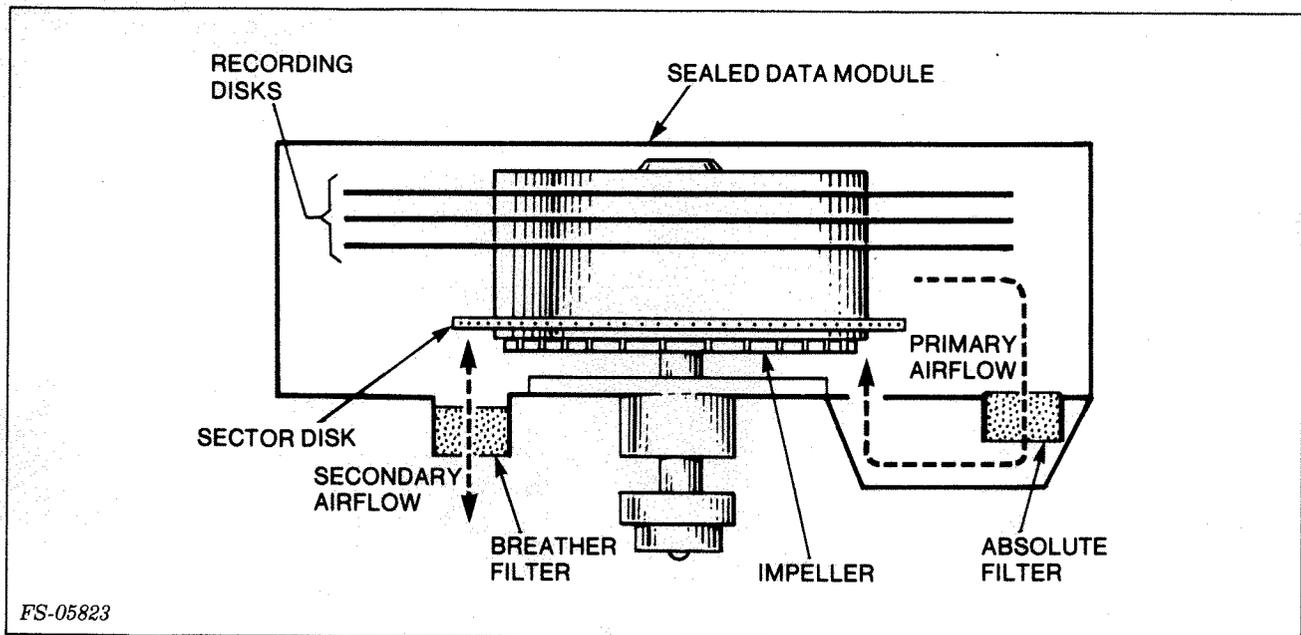

Figure 3-7. Clean Air System
3.4.3 Clean Air System - Figure 3-7 shows how air flows in the sealed data module. There are two airflow paths: